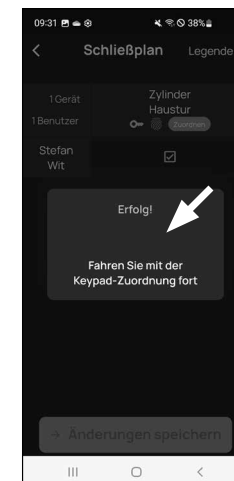

Fig. 6
- 7 The data will be transferred. A confirmation will appear after a brief moment and at the same time a request to now assign the keypad. Tap on the confirmation message (Fig. 6).